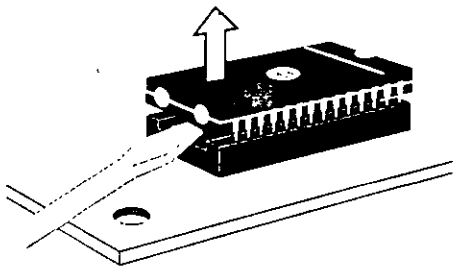

Figure 5. Removing the NetWare Boot PROM
- Use a flat-blade screwdriver (or a chip puller). Carefully slide the tip of the screwdriver under one end of the boot PROM (shown in Figure 5) and gently pull up until the pins on that side of the boot PROM are out of their sockets.